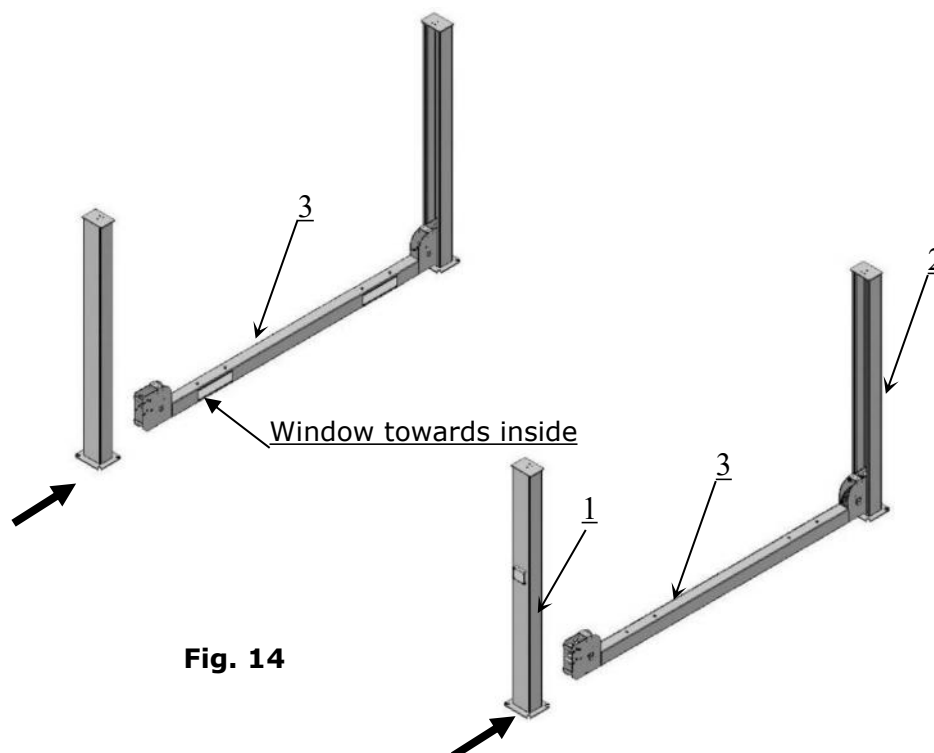
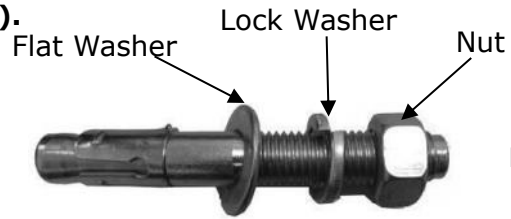

Fig. 14
Fig 15
- D. Install Cross Beams (See Fig. 14, Fig. 15).**
1. Prepare the Anchor Bolts (**See Fig. 15**).